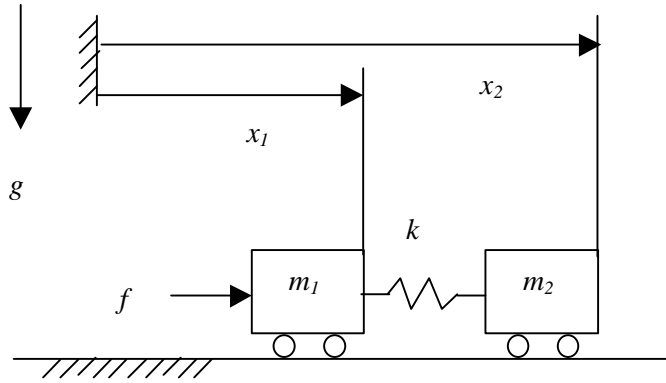

Figure 3
- Q.3 For the system shown in Figure 3, m_1 and m_2 are the masses of blocks 1 and 2, k is the spring constant of the linear spring connecting the two blocks, x_1 and x_2 are the displacements as indicated, and f is the external forces on block 1. Assume that the system is in the vertical plane under the influence of gravity.